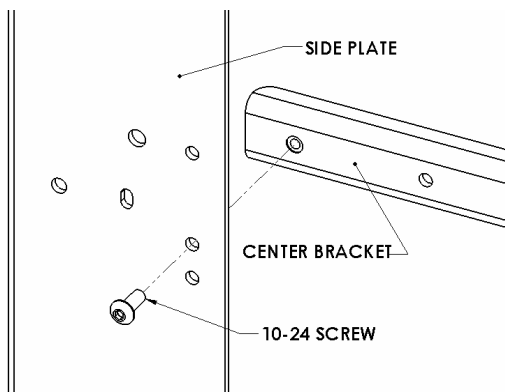
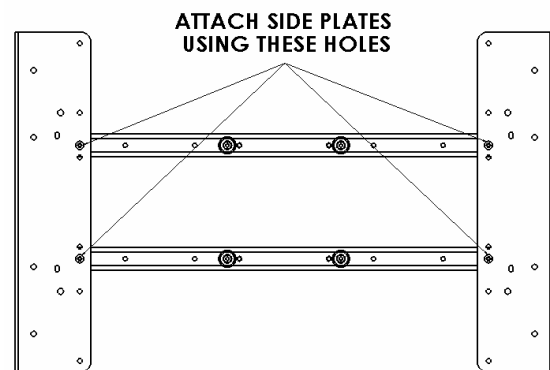

Figure 4
Figure 5
- Attach center brackets to side brackets using #10-24 screws, hex key provided. (see Figure 4 & Figure 5).